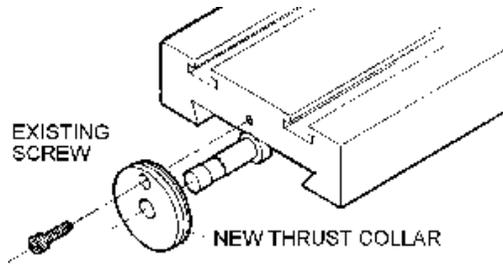
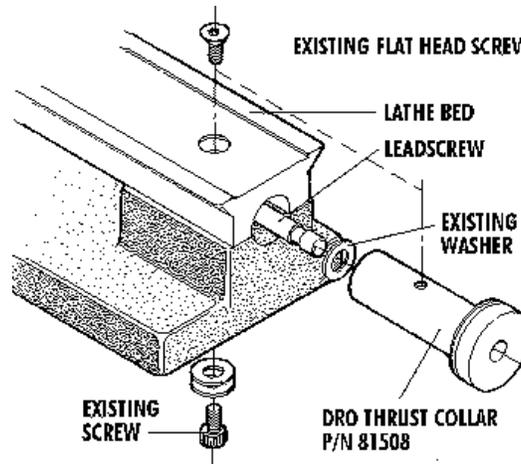

FIGURE 1A--Installing the new thrust collar on the crossslide screw.
FIGURE 1B--Installing the new thrust collar and existing washer on the leadscrew.
4. Using a 3/32" hex wrench, remove the 5-40 screw holding the thrust collar over the crossslide and remove the collar. (See Figure 1A.) Use a 1/8" hex wrench to remove the countersunk screw in the top of the lathe bed and a 5/32" hex wrench to remove the socket head cap screw under the lathe base so that the collar can be removed from the leadscrew. (See Figure 1B.)